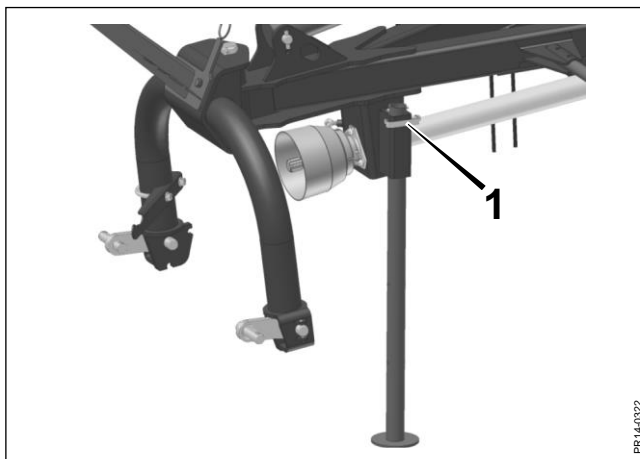

Fig. 4-4
- Fig. 4-4** Raise the machine with the link arms until the support is raised from the ground.
- Release the support by pulling out the spring pin (1).